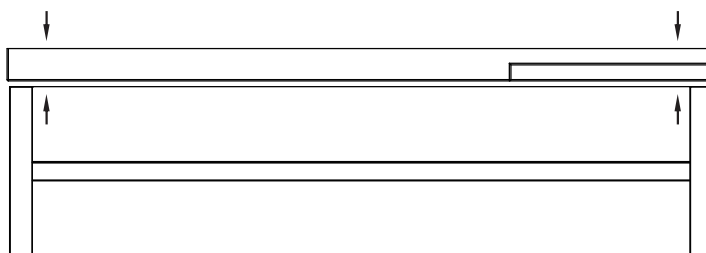
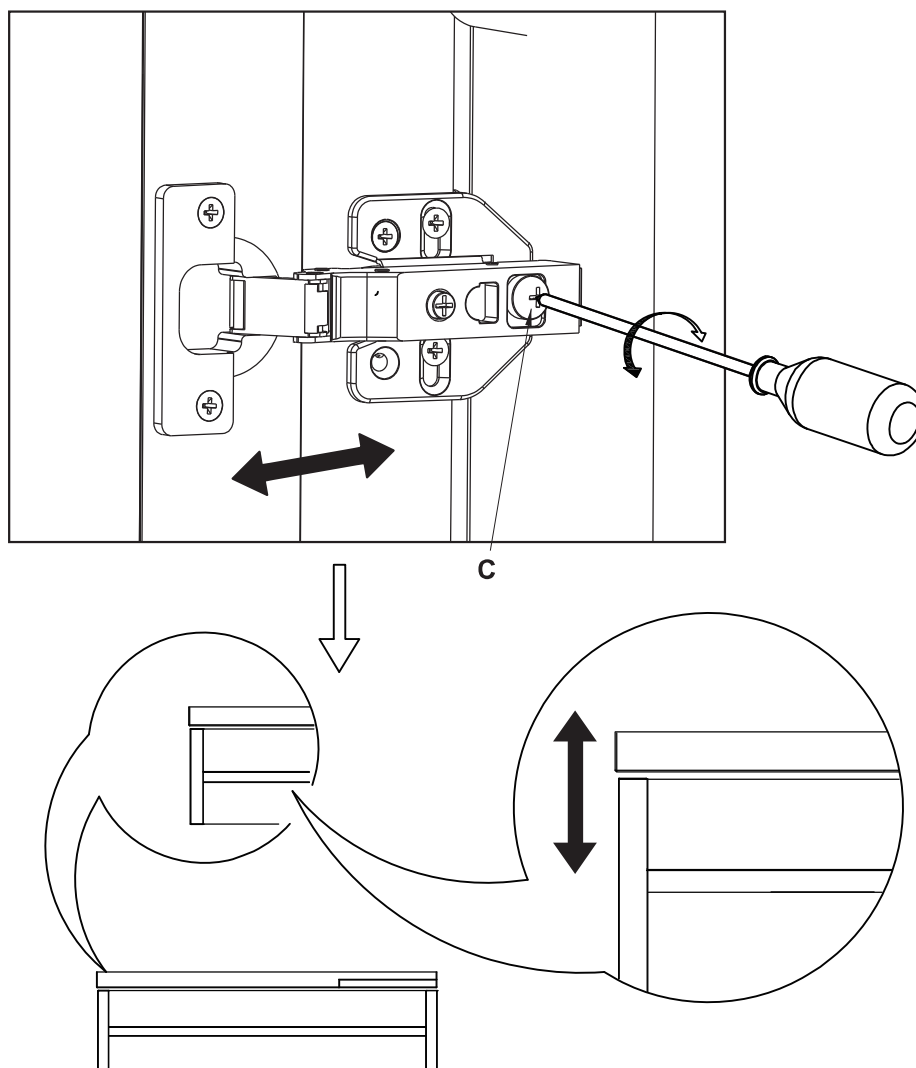

Fig. 8
Fig. 9
3.2 If the cabinet door isn't flat (Fig. 8), adjust the distance between the door and the cabinet by adjusting the screw (C) to make both doors flat. (Fig. 9)